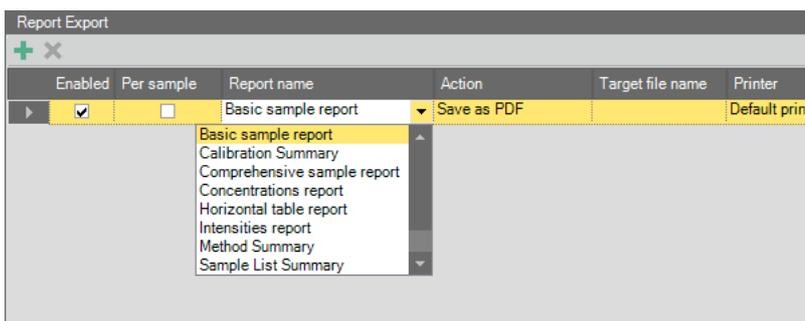

Figure 5-15. Report name drop-down
3. For **Report name**, expand the drop-down list, see Figure 5-15.